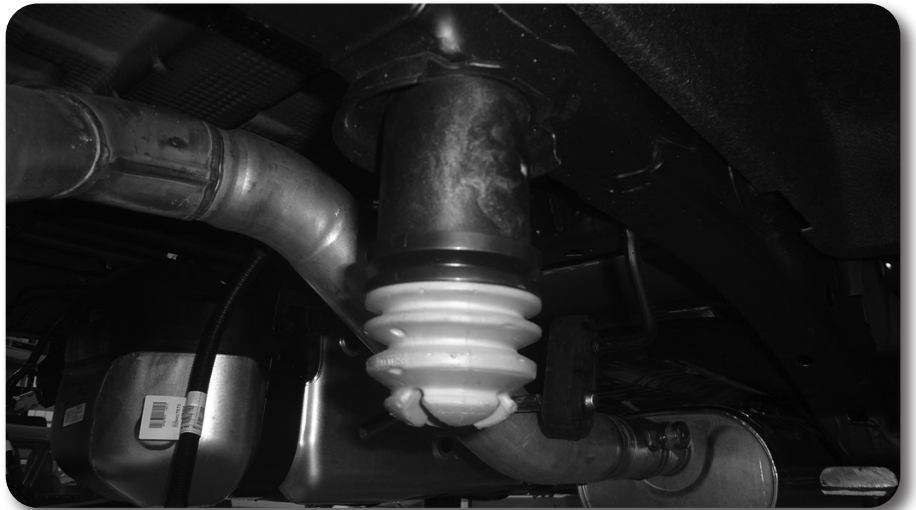

Figure 4
- Remove the rear rubber bump stops from the frame. Access the bolt head up through the center of bump stop using a 10mm socket. Remove the bump stop and install the provided 3" diameter x 3" tall spacer between the bump stop and the frame mount with a 10mm Allen head bolt and thread locker. Center the spacer on the lip of the factory bump stop cup and torque bolt to 37 ft-lbs. Fig. 4.